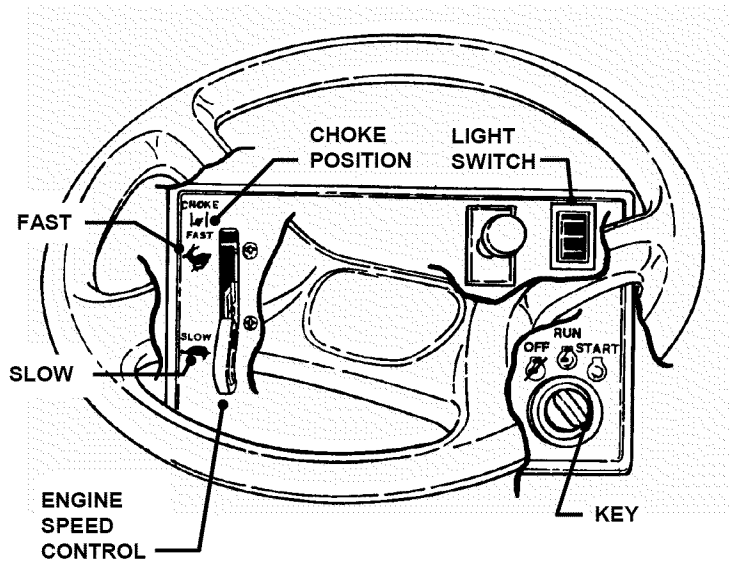

FIGURE 2.6
5. Choke engine for cold starting by moving engine speed control to "CHOKE" position. **NOTE:** Some models are equipped with a separate choke control, located on the dash of the tractor. Pull the control "OUT" to choke position to start a cold engine. Little or no choking will be needed when restarting a warm engine. Insert key in switch. Turn key to "START" position to crank engine and hold until engine starts, then release key. See Figure 2.6.
6. After engine starts, release key, move the engine speed control to "FAST" position and allow engine to warm up before proceeding. See Figure 2.6.